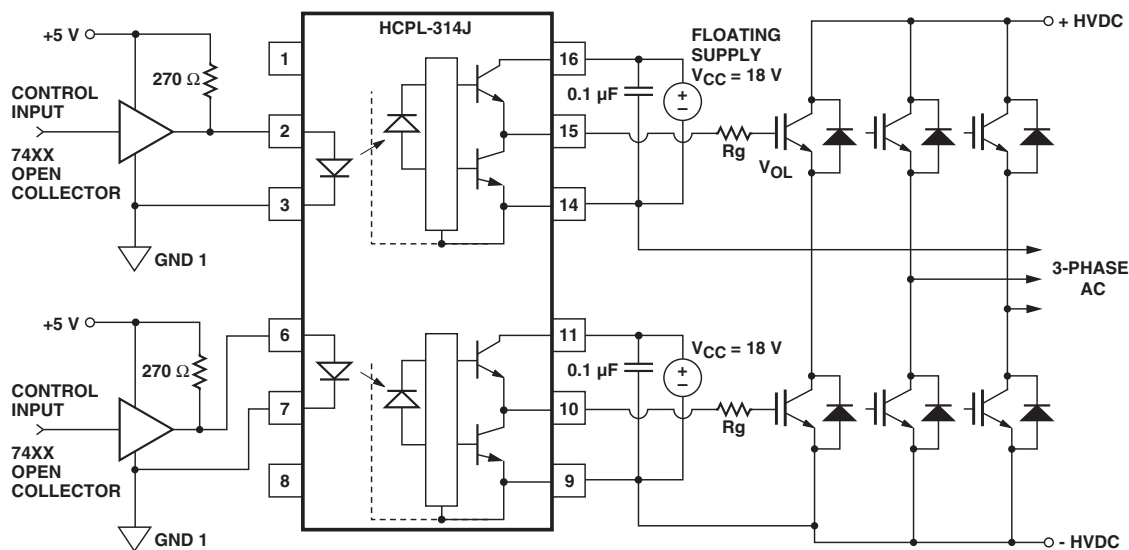
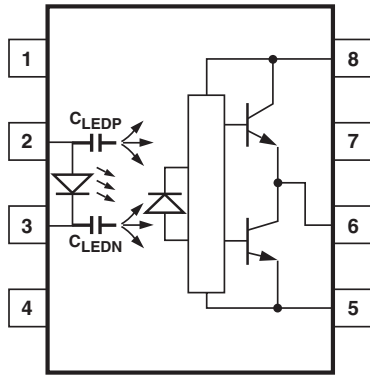
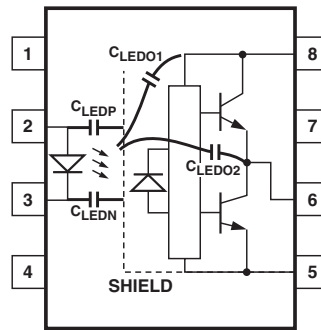
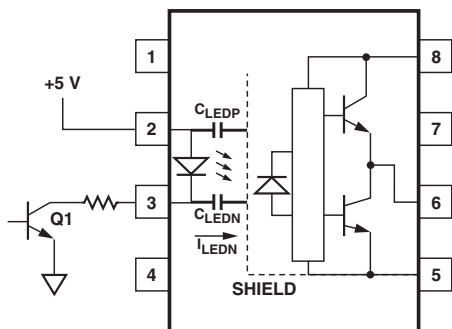

Figure 19. Recommended LED Drive and Application Circuit for HCPL-314J.
Figure 21. Optocoupler Input to Output Capacitance Model for Unshielded Optocouplers.
Figure 22. Optocoupler Input to Output Capacitance Model for Shielded Optocouplers.
Figure 24. Not Recommended Open Collector Drive Circuit.
To keep the IGBT firmly off, the HCPL-314J has a very low maximum  $V_{OL}$  specification of 1.0 V. Minimizing  $R_g$  and the lead inductance from the HCPL-314J to the IGBT gate and emitter (possibly by mounting the HCPL-314J on a small PC board directly above the IGBT) can eliminate the need for negative IGBT gate drive in many applications as shown in Figure 19. Care should be taken with such a PC board design to avoid routing the IGBT collector or emitter traces close to the HCPL-314J input as this can result in unwanted coupling of transient signals into
the input of HCPL-314J and degrade performance. (If the IGBT drain must be routed near the HCPL-314J input, then the LED should be reverse biased when in the off state, to prevent the transient signals coupled from the IGBT drain from turning on the HCPL-314J.) An external clamp diode may be connected between pins 14 & 15 and pins 9 & 10 (as shown in Figure 19) for the protection of HCPL-314J in the case of IGBTs switching inductive load.
**Step 1:** Calculate Rg minimum from the IOL peak specification. The IGBT and Rg in Figure 24 can be analyzed as a simple RC circuit with a voltage supplied by the HCPL-314J.
where  $K_{ICC} \cdot Q_g \cdot f$  is the increase in ICC due to switching and KICC is a constant of 0.001 mA/(nC\*kHz). For the circuit in Figure 19 with IF (worst case) = 10 mA, Rg = 32 Ω, Max Duty Cycle = 80%, Qg = 100 nC, f = 20 kHz and TAMAX = 85°C:
Without a detector shield, the dominant cause of optocoupler CMR failure is capacitive coupling from the input side of the optocoupler, through the package, to the detector IC as shown in Figure 21. The HCPL-314J improves CMR performance by using a detector IC with an optically transparent Faraday shield, which diverts the capacitively coupled current away from the sensitive IC circuitry. However, this shield does not eliminate the capacitive coupling between the LED and optocoupler pins 5-8 as shown in Figure 22. This capacitive coupling causes perturbations in the LED current during common mode transients and becomes the major source of CMR failures for a shielded optocoupler. The main design objective of a high CMR LED drive circuit becomes keeping the LED in the proper state (on or off) during common mode transients. For example, the recommended application circuit (Figure 19), can achieve 10 kV/μs CMR while minimizing component complexity.
The open collector drive circuit, shown in Figure 24, can not keep the LED off during a  $+dV_{CM}/dt$  transient, since all the current flowing through CLEDN must be supplied by the LED, and it is not recommended for applications requiring ultra high CMR1 performance. The alternative drive circuit which like the recommended application circuit (Figure 19), does achieve ultra high CMR performance by shunting the LED in the off state.